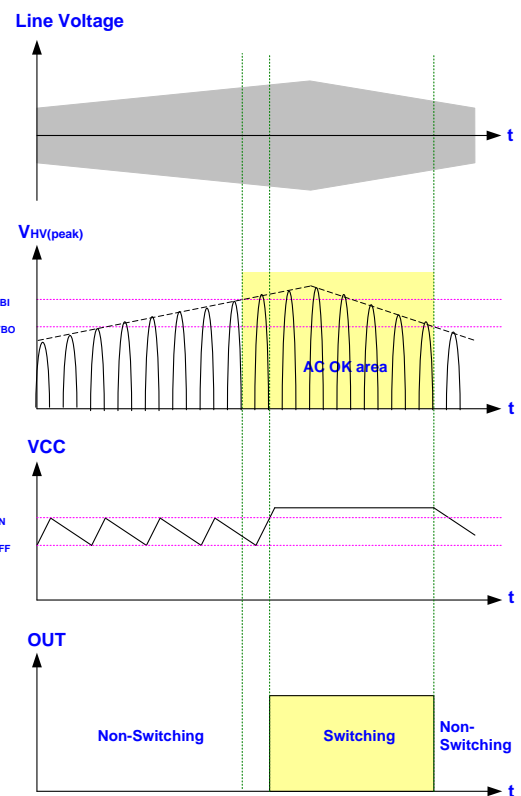

Fig. 13
The LD5760A features Burn-in/out function on HV pin. As the built-in comparator detects the half wave rectify line voltage condition, it will shut off the controller to prevent from any damage. Fig. 13 shows the operation. When  $V_{HV} < HVBO$ , the gate output will remain off even when the VCC already reaches UVLO(ON). It therefore forces the VCC hiccup between UVLO(ON) and UVLO(OFF). Unless the line voltage rises over HVBI  $V_{AC}$ , the gate output will not start switching even as the next UVLO(ON) is tripped. A hysteresis is implemented to prevent the false-triggering during turn-on and turn-off.